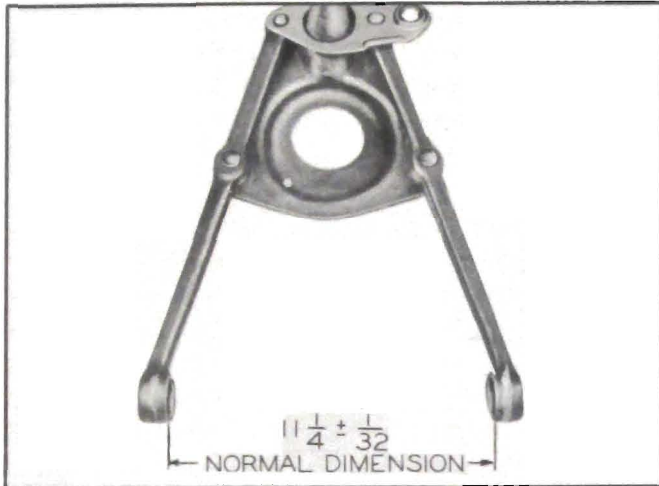

Figure 6-21—Correct Spacing of Control Arm Inner Ends
3. Check the distance between inner ends of control arm. The normal dimensions is $11\frac{1}{4}$ " plus or minus $\frac{1}{32}$ ", from inside to inside. See figure 6-21.